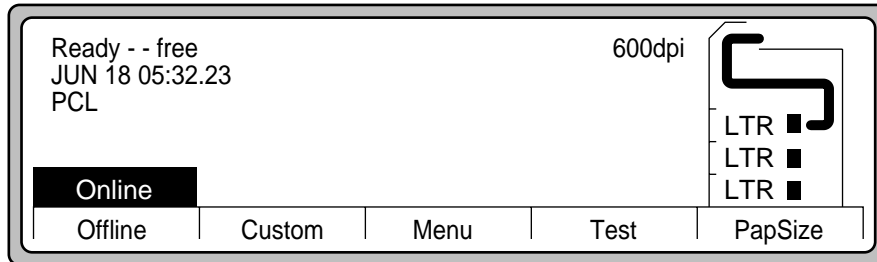

Figure 2-76 Main Screen
4. Press the **Test** button on the **Main Screen** shown in Figure 2-76.